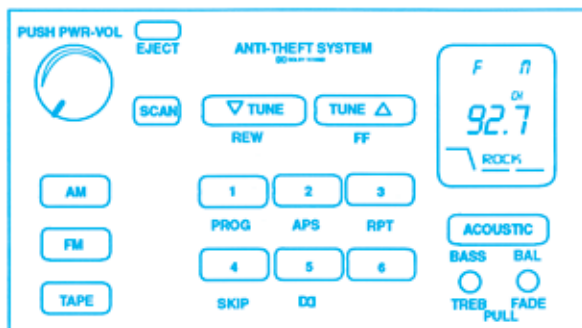

Figure 15-15. Radio face panel.
Entertainment radios (Figure 15-15) are available in a wide variety of models. The complexity of systems varies from the basic AM radio to the compact disc (CD) player with high power amplifiers and multiple speakers. However, the overall operation of the radio itself, electrically, is basically the same. The major components in a basic AM system are a radio receiver and speaker. In the more complex stereo systems, the major components are an AM/FM radio receiver, a stereo amplifier, a sound amplifier switch, several speakers, and possibly a power antenna system.